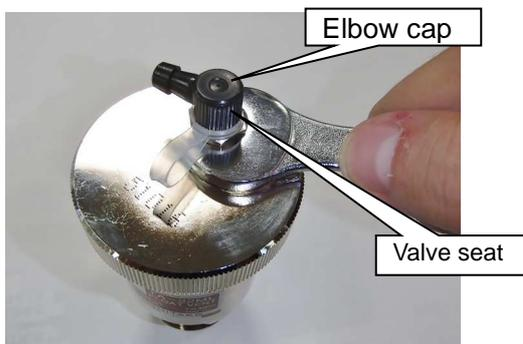

Fig.3
- Remove valve seat with spanner (nominal size: 12mm) (see Fig.3).